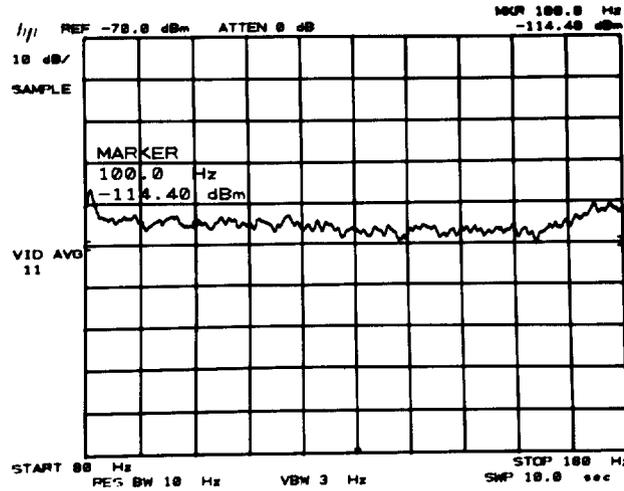

FIGURE 26. AVERAGE NOISE LEVEL MEASUREMENT
- Press MARKER . Tune to 100 Hz, or the nearest frequency that is not on the slope of the LO feedthrough or on a line-related sideband (e.g., 120 Hz). Refer to Figure 26.